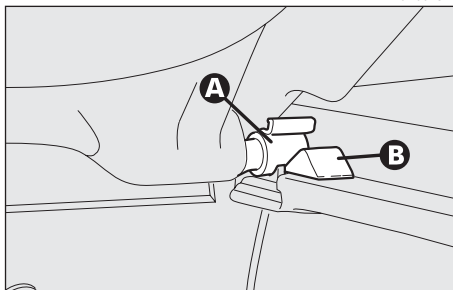

fig. 17
- release the pins (**A-fig. 17**) at the outside of the shelf from their housings (**B**) obtained in the side supports, then remove the shelf pulling it outwards.